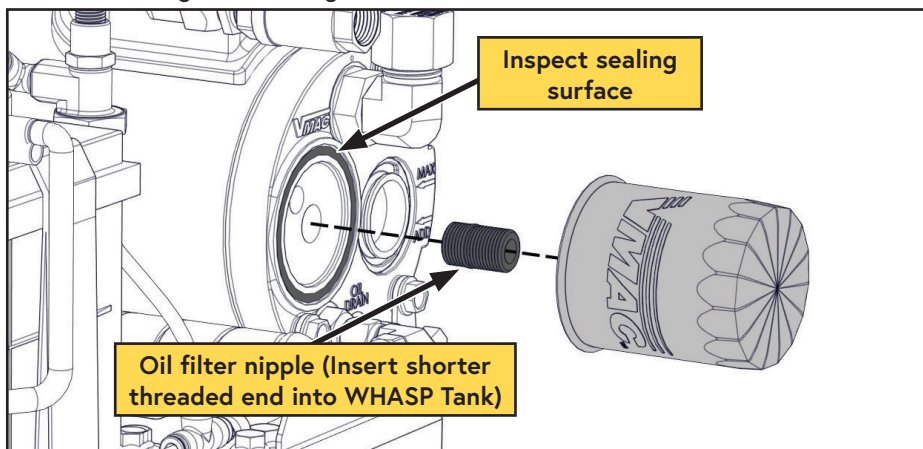

Figure 37 — Compressor oil filter
- \*To reinstall the nipple, thoroughly clean the threads and apply Loctite 242 (blue) to the end with the short threads and replace it in the AOST (Figure 37).
- Clean the gasket sealing surface on the front of the tank and inspect it for damage. The surface must be free of old gasket material and smooth to ensure a good seal. (Figure 37).